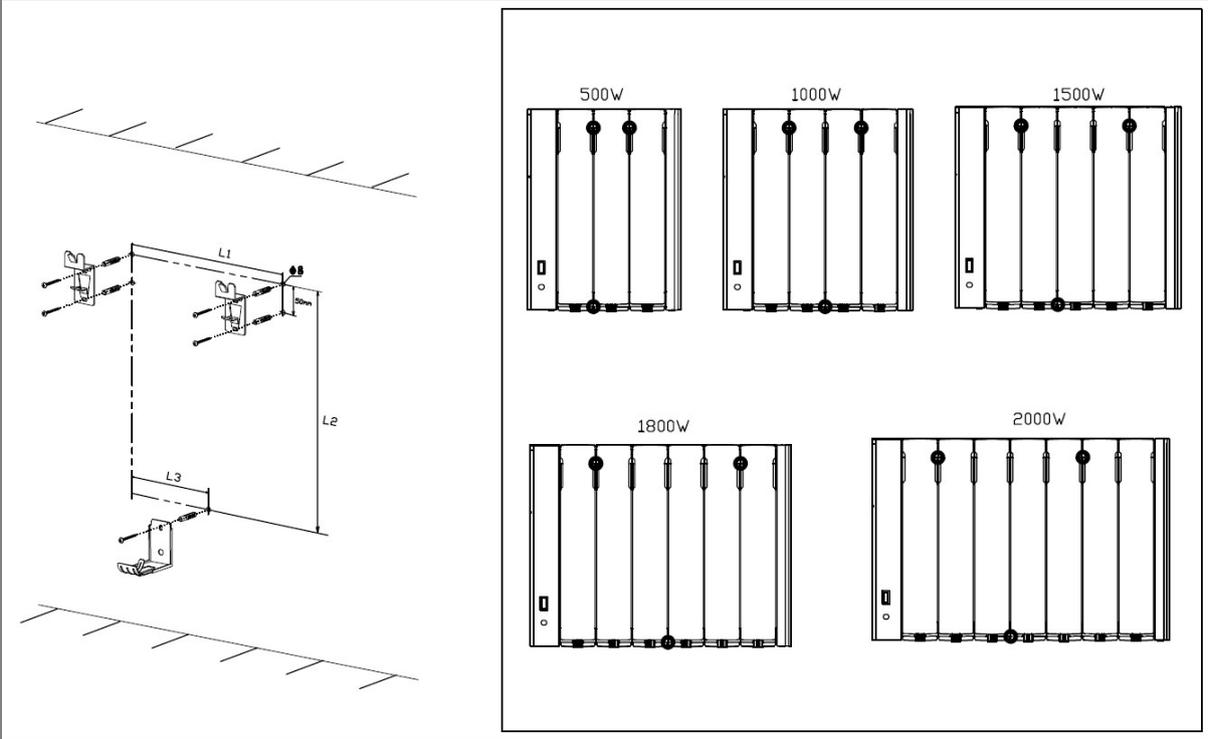

Figure 3 | Bracket positions on the radiator and wall
2. Using the template, mark the locations of the 5 drill holes required for your product size. Fit the wall plugs into the holes and use the wall mounting screws to fix the brackets in place as per **Figure 3** and **Table 2** below.